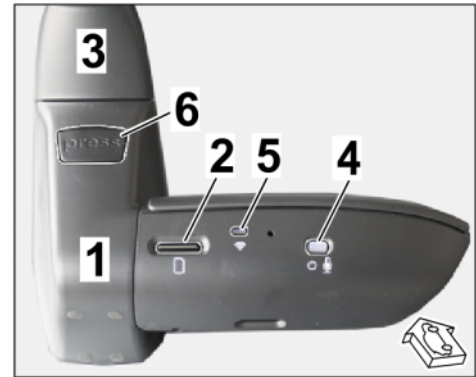

Figure 21
5.1.1 Remove micro SD memory card (32 GB, ⇒ *Figure 21 -2-*) from front camera card slot.
5.1.2 With the ignition switched on, push the front camera (dashcam ⇒ *Figure 21 -1-*) into the retainer plate on the windshield (⇒ *Figure 21 -3-*)
5.1.3 Press power button (⇒ *Figure 21 -4-*) for 10 seconds until you hear the second double-beep.
5.1.4 The front camera (dashcam) starts in Dealer mode: WiFi LED (⇒ *Figure 21 -5-*) lights up "yellow".